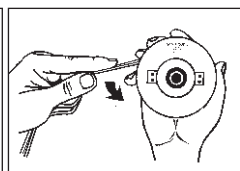

Fig. 15C
5. Wind as shown in illustration (Fig. 15C), keeping tension, with each half separated by the spool divider. Wind to within 6" (15cm) of the ends.